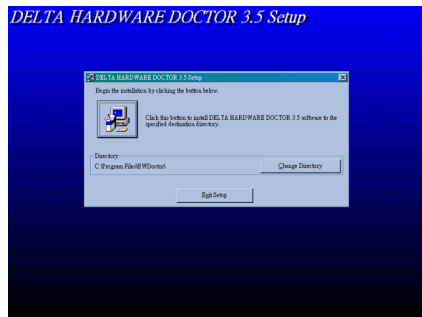

Figure 5
- Click **OK**, the following screen will appear Figure 5 to install DELTA HARDWARE DOCTOR 3.5 program. The default directory is “C:\Program Files\HWDdoctor\”.